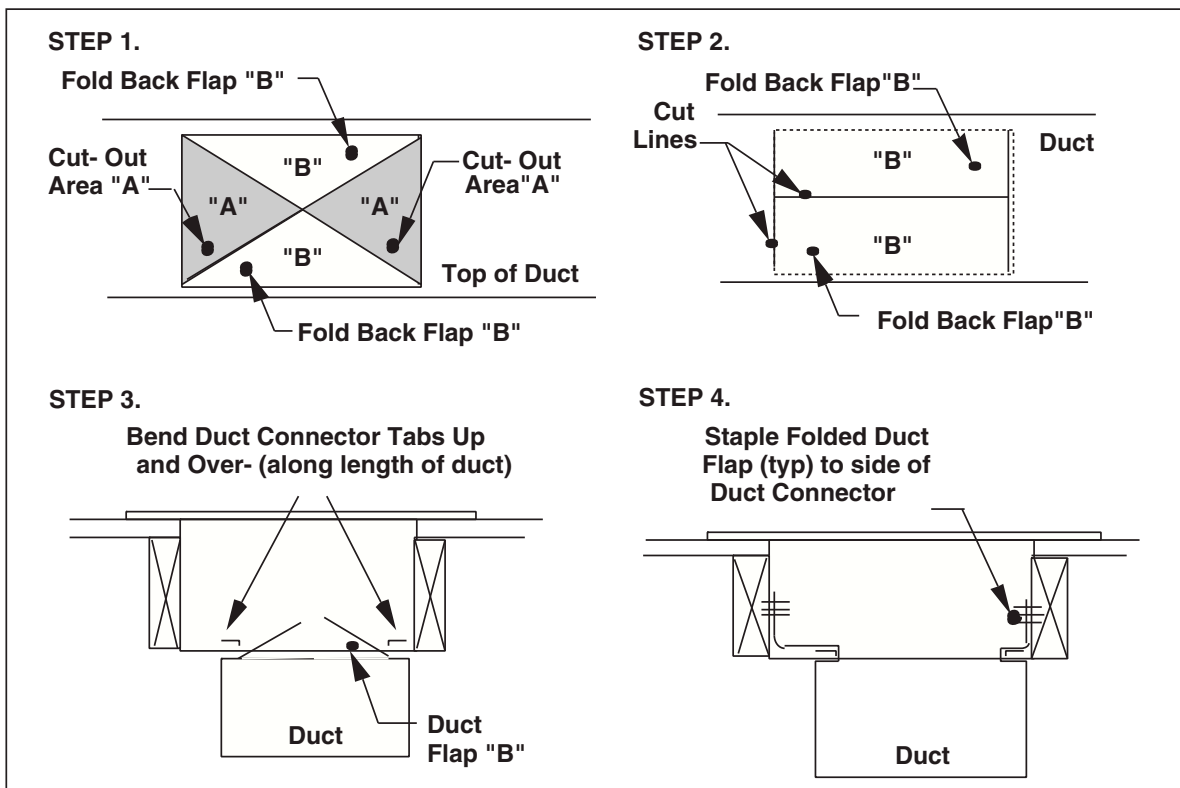

Figure 12. Alternate Duct Connector Installation D
1. Score and cut top of metal duct as indicated in Figure 12, Step 1 or Step 2. If using Step 1, also cut out metal from the shaded area "A".
2. Fold the duct flap "B" up (see Figure 12, Step 3).
3. At the front-to-back of duct run (see Figure 12, area "A"), bend the duct connector tabs and secure them directly to the duct.
4. At area "B", bend the duct connector tabs up and back over, around the duct connector (see Figure 12, step 3).
5. Fold/form the duct flap against the side of the duct connector and attach as shown (see Figure 12, Step 4). Use at least three staples on each duct flap OR...if a 2X block/joist is not provided, use at least two sheet metal fasteners on each duct flap.